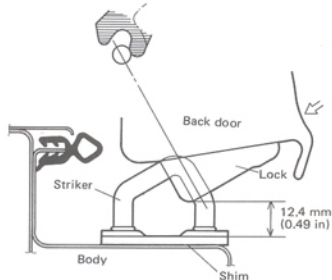

Fig. 19-24
- When the back door lock is advanced into the striker as shown in Fig. 19-24, adjust the clearance between the door lock and the striker so as to be 12.4 mm (0.49 in.) by increasing or decreasing a shim between the striker and the body.